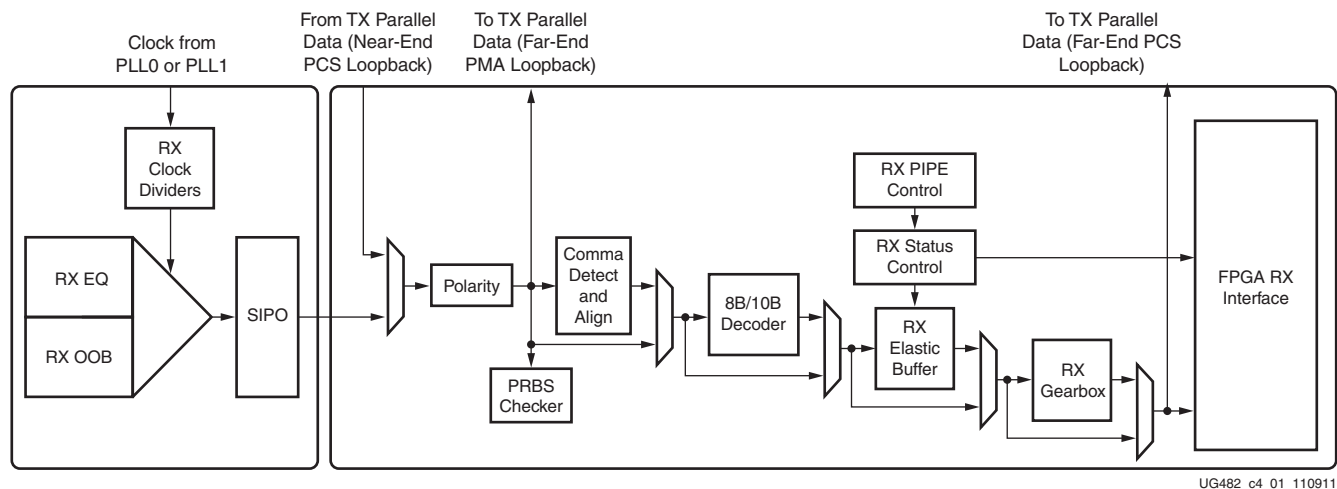

Figure 4-1: GTP Transceiver RX Block Diagram
This section shows how to configure and use each of the functional blocks inside the receiver (RX). Each GTP transceiver includes an independent receiver, made up of a PCS and a PMA. Figure 4-1 shows the blocks of the GTP transceiver RX. High-speed serial data flows from traces on the board into the PMA of the GTP transceiver RX, into the PCS, and finally into the FPGA logic. Refer to Figure 2-9, page 35 for the description of the channel clocking architecture, which provides clocks to the RX and TX clock dividers.
The RX analog front end (AFE) is a high-speed current-mode input differential buffer (see Figure 4-1). It has these features: